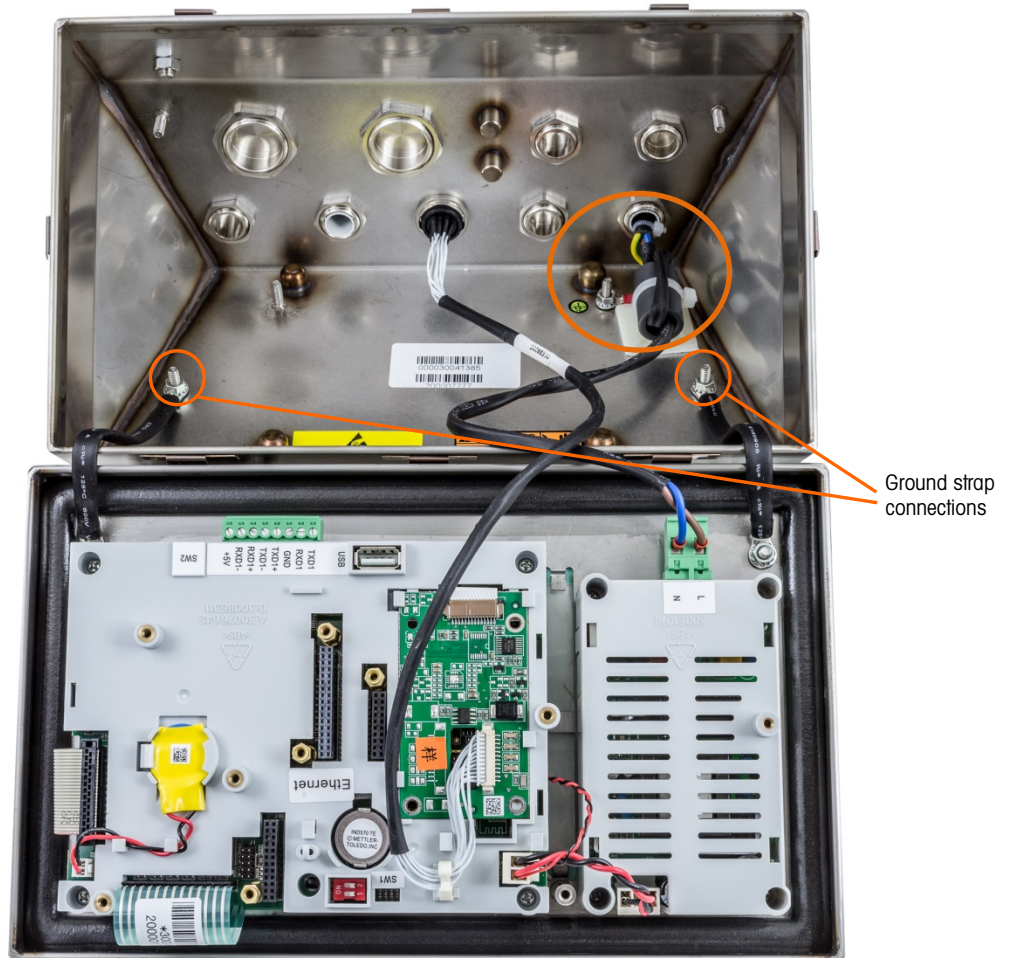

Figure 2-14: Loosening the Ground Straps
- F. Loosen and remove the two nuts securing the two grounding straps (these also operate as hinges for the front cover) to the rear housing. See Figure 2-14.